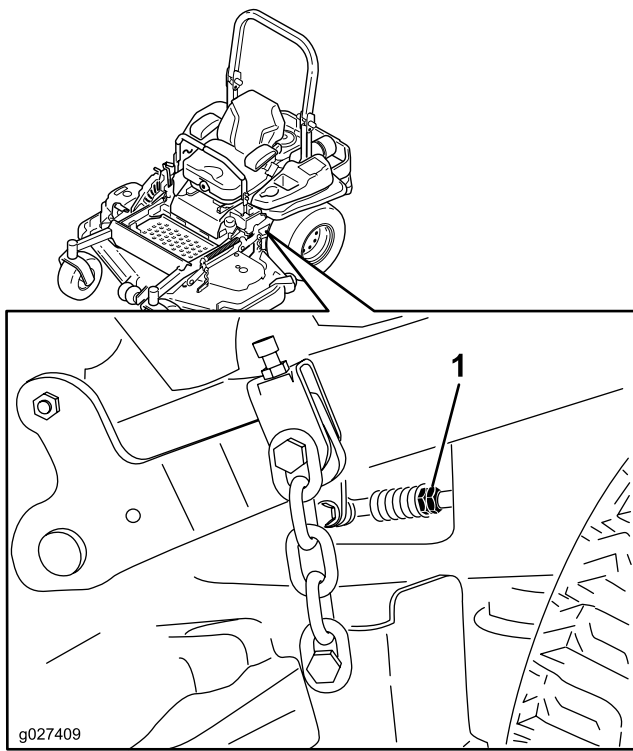

Figure 82
11. Adjust the pump control rod lengths by rotating the double nuts on the rod in the appropriate direction until the wheels slightly creep in reverse (Figure 82).